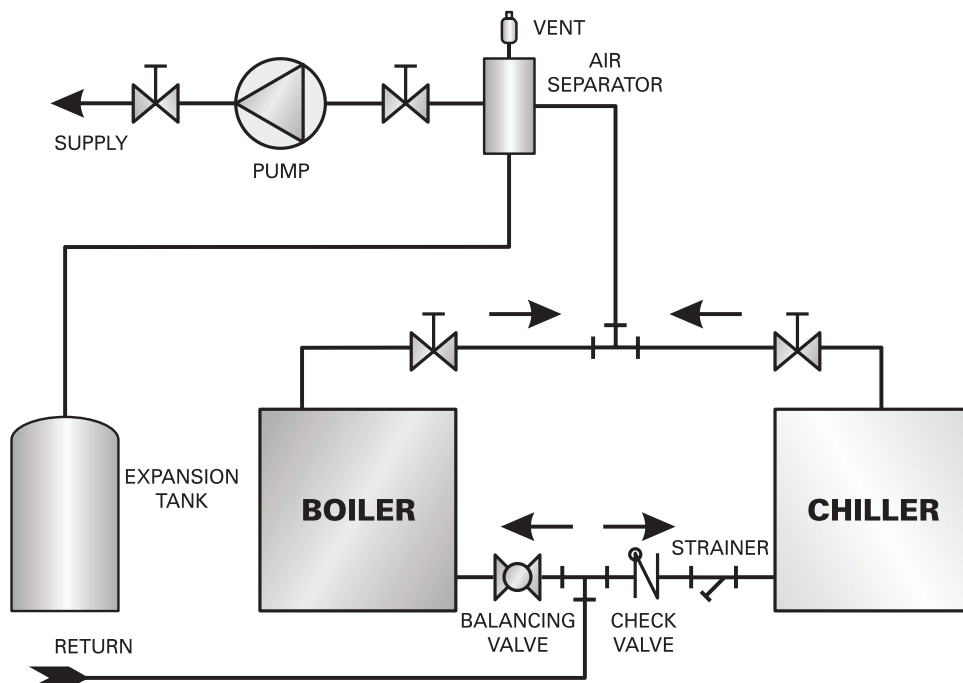

Figure 4.2: Piping to Isolate Boiler from Chilled Medium on Chiller Systems
5. If the boiler and distribution system is used in conjunction with a refrigeration system, pipe the chilled medium in parallel with the boiler and provide isolation valves to prevent chilled water from entering the boiler. See Figure 4.2.